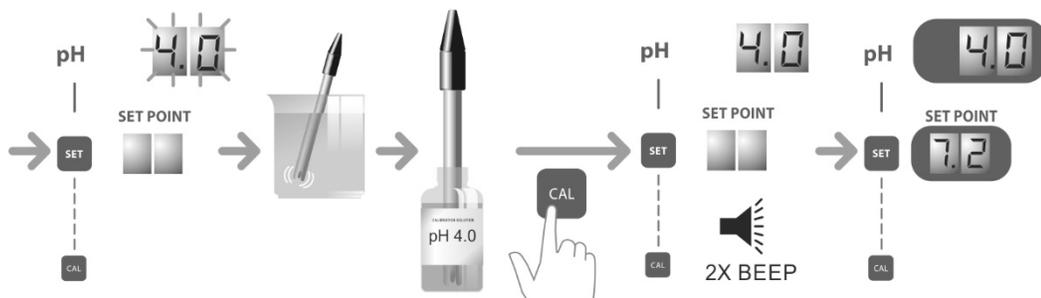

Fig. 15b.
5. Shake the electrode gently to remove any drops of water on it, then insert it into the pH 4.0 calibration solution. Stir it around in the solution for a few seconds, then press “CAL” [8]. After the reading has been confirmed, the upper screen will display “4.0”, then you will hear 2 “beeps”, indicating that the process has been completed. The controller will automatically exit the calibration mode and become operative. (Fig. 15b).